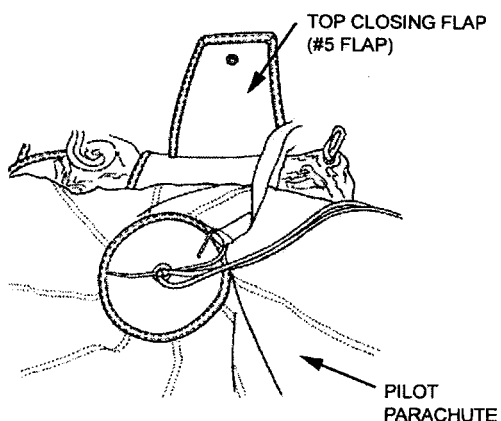

Figure 10. Roll Pilot Parachute Netting
n. While helper stabilizes the pilot parachute, starting at the top, roll the pilot parachute netting and canopy under to approximately 2-in. from the edge of the pilot parachute center cap (Figure 10).